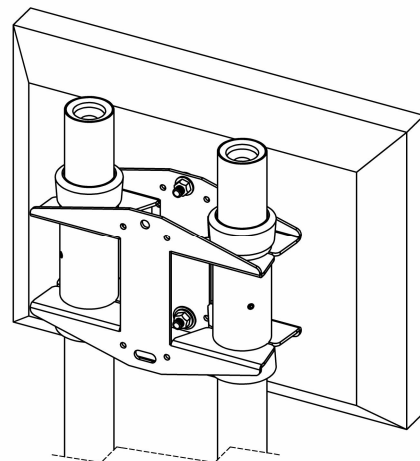

Figure 6. Re-adjust Display Height and Tighten Lock Nuts
2. Attach the adapter bracket (and display) to the single head (10) assembly as follows:
- a. Insert the threaded studs on the adapter bracket (20) through the mounting holes on the adapter bracket (10).
- b. Secure top of the adapter bracket (20) using one steel washer (120) and one locknut (70).
- c. Secure bottom of the adapter bracket (20) using one flat nylon washer (60), one steel washer (120), and one locknut (70).
4. Tighten the lock nuts (70). See Figure 6.